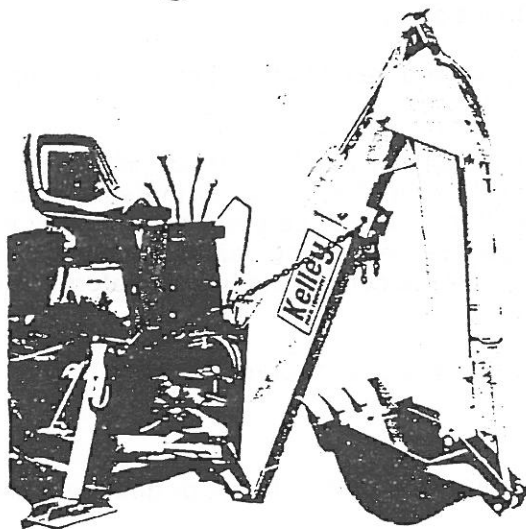

Figure 4
10. Raise the boom to take the tension off of the transport chains. Remove and place chains in chain carrier on front of the control panel as shown in Figure 4.